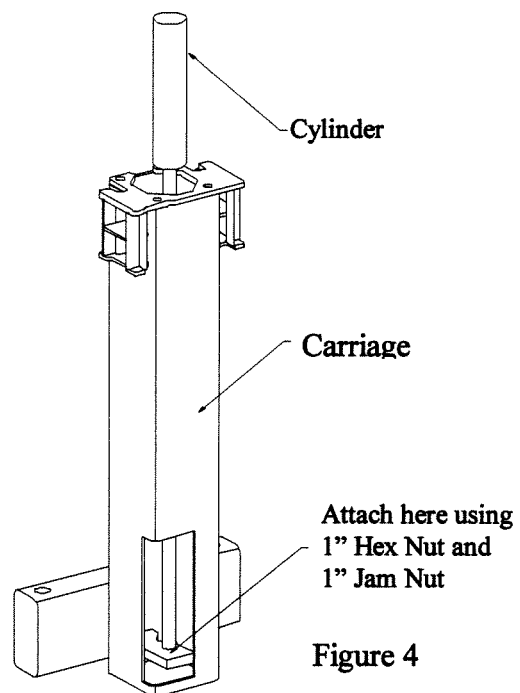

Figure 4
7. Install the cylinders in the leg/upright assemblies. The elbow fitting should face to the outside. The cylinders are secured at the top using a 3/4" diameter bolt and nylon insert nut. Pull out the rod and secure to the carriage bottom using a 1" nut and jam nut as shown in Figure 4 above. If necessary, CAREFULLY use compressed air to extend the cylinder rods. Hold an air nozzle to the top cylinder fitting and SLOWLY apply air. DO NOT ALLOW THE ROD TO SHOOT OUT OF THE CYLINDER AS DAMAGE OR INJURY MAY RESULT. The carriages should be held by the latches about 24" up from the bottom.